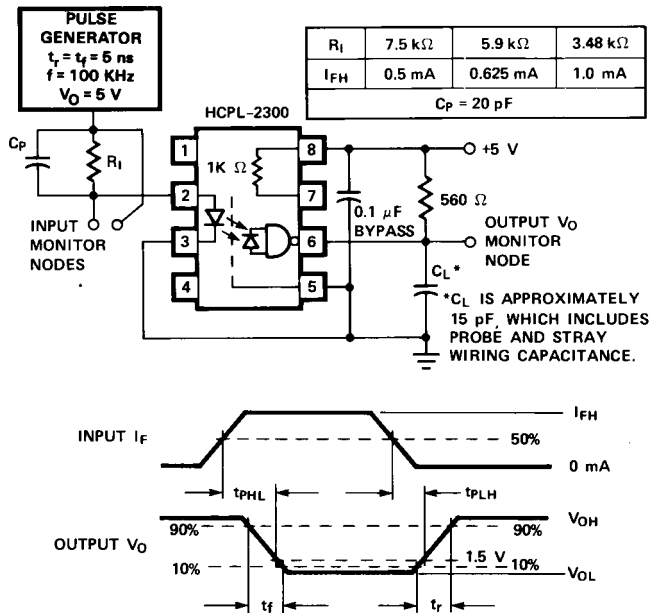

Figure 8. Test Circuit for tPHL, tPLH, tr, and tf.
- $C_{\text{P}}$  is the peaking capacitance. Refer to test circuit in Figure 8.